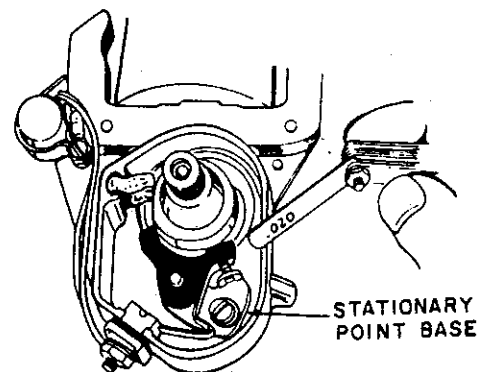

Figure 20
- D. Install the points, if necessary. Adjust the point stationary base for a .020-inch (0.51 mm) point gap on high side of cam, then close points and clean. Use a squarely cut piece of bond paper. (See Figure 20.)